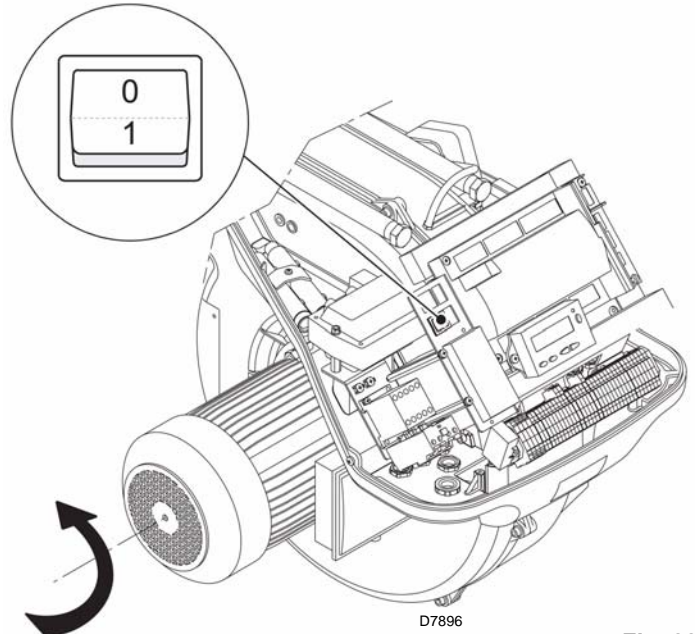

Fig. 28
Feed electricity to the burner via the disconnecting switch on the boiler panel. Close the thermostats/pressure switches and turn the switch of Fig. 28 to position “1”.
The burner is in the request for heat waiting mode, or the selector "0-1" of Fig. 28 is at the "0" position.
**With the switch 1-0 in Fig. 28 the burner does not stop immediately, but the switch-off phase is activated.**